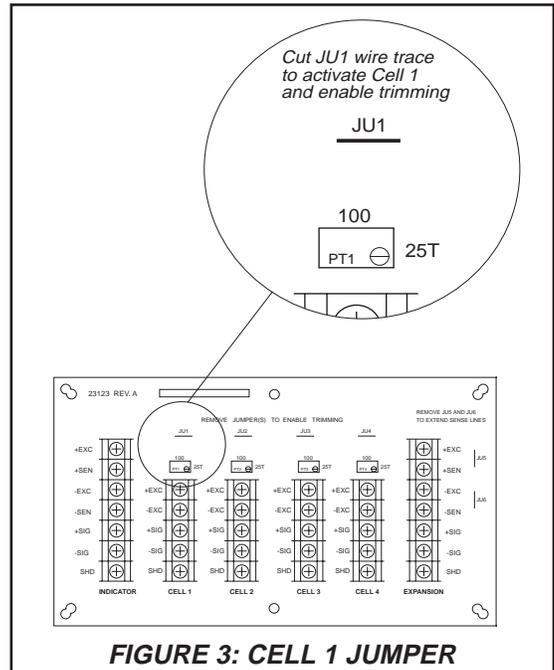

FIGURE 3: CELL 1 JUMPER
After determining the wiring pattern, route the load cell cables through the nylon cord grip assemblies and leave the grips loose until final closure. Before connecting load cell cables to the terminals, check that all wire ends have been properly stripped and tinned; then connect the load cell and indicator cables to the appropriate connectors. **Any cell which has a load cell wired to it must have the corresponding jumper snipped to activate that cell. If less than four load cells are used, DO NOT cut the jumper traces on unused terminals. (See Figure 3 on next page)**
2. Make sure jumpers have been cut to activate the cells corresponding to each load cell. See Figure 3.